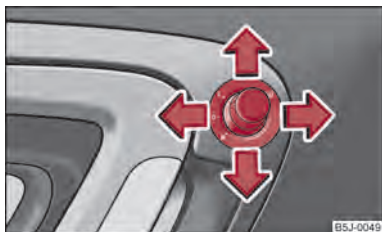

Fig. 36 Inner part of door: Rotary knob
- Turn the rotary knob to position  → fig. 36.